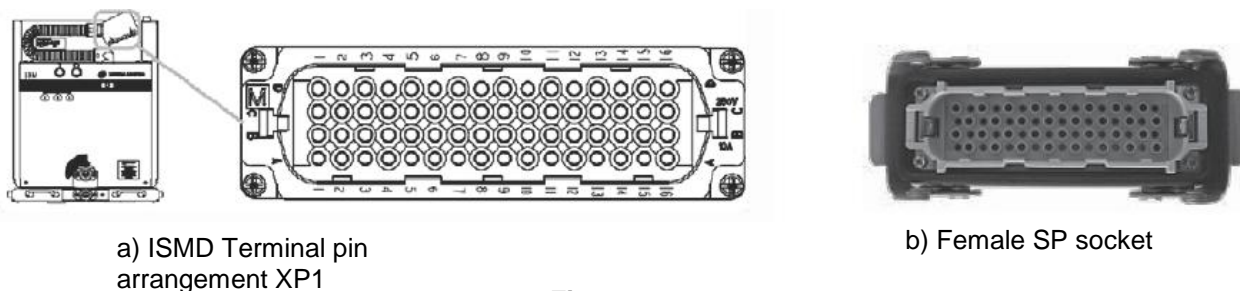

Figure 17
1. Control wiring plug (see Figure 17);
The female socket is installed in the upper part of the CB compartment for connection with the secondary circuit in the LV compartment of the SP (see Figure 17, b).
2. Control wiring plug (see Figure 17 and Table 6);
1. Control wiring plug. The female socket is in the LV compartment of SP (Figure 17, b);